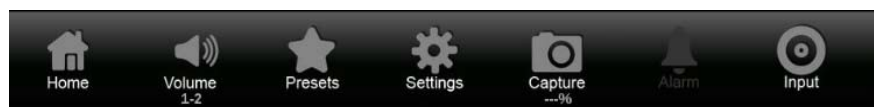

Figure 83: Stream capture icon with percentage shown
8. Select the **Capture** icon on the application bar to start the process. When the capture type is Screenshot and Stream, a percentage will be displayed under the Capture icon. (See Figure 83.)